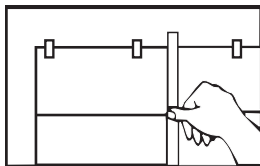

FIGURE 2
1. Apply a masking tape hinge vertically at the center of the decal. (FIGURE 2)